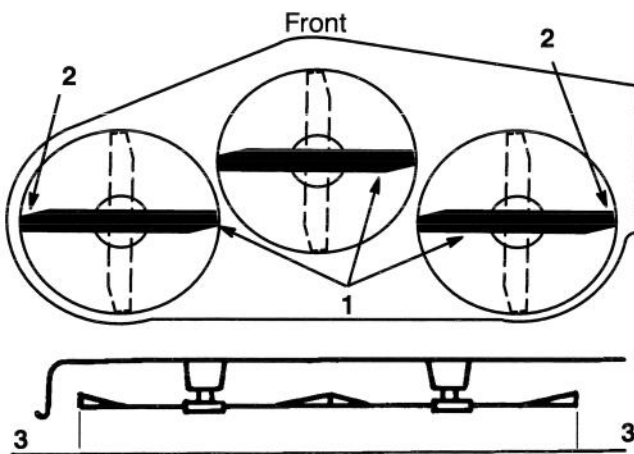

Figure 8
3. Carefully rotate blade(s) side to side (Fig. 8). Measure between the outside cutting edges and the flat surface (Fig. 8). If both measurements are not within 3/16" (5 mm), an adjustment is required; refer to steps 4 and 6.